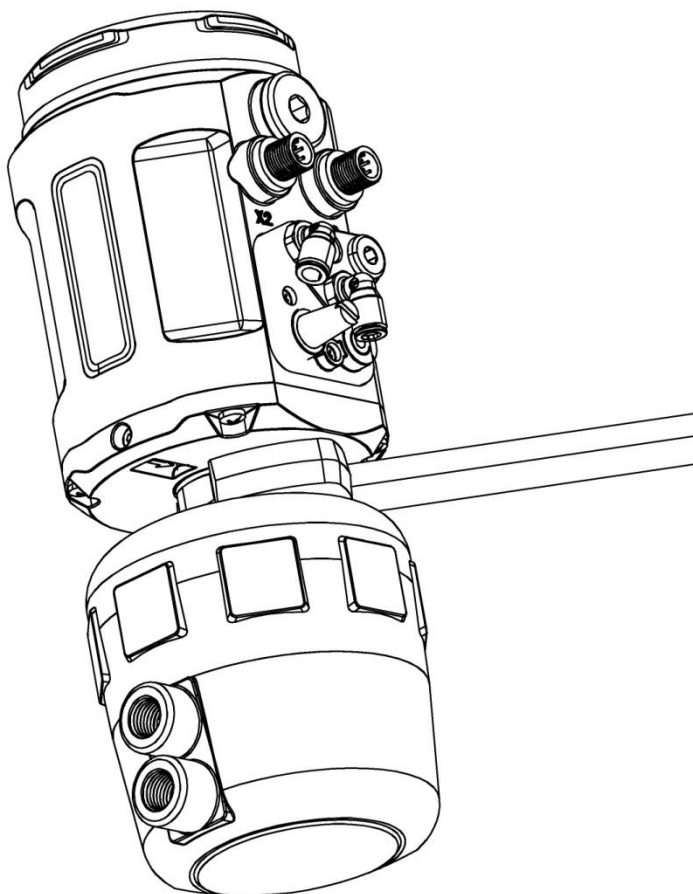

Figure 7. Actuator Combination
4. Raise the internal valve stem of the actuator to the highest position. Make the actuator connection of the positioner entering into the thread connection of the actuator by **NO.32 wrench**. As shown in Figure 7.
If you need to adjust the interface angle, relax the hexagon screw in place A (As shown in Figure 7) first. Then adjust the angle clockwise or counter-clockwise in 180° range. After adjusting the angle, lock the angle by the hexagon screw.